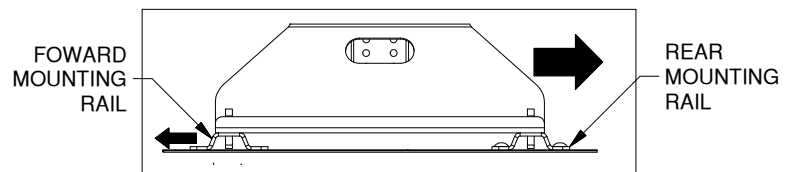

Figure C2: Side view of RV base and mounting rails.
2. **IMPORTANT:** Before drilling forward mounting holes pull the RV base towards the rear of the truck and push the forward rail towards the cab of the truck to correctly space the mounting rails, see figure C2.